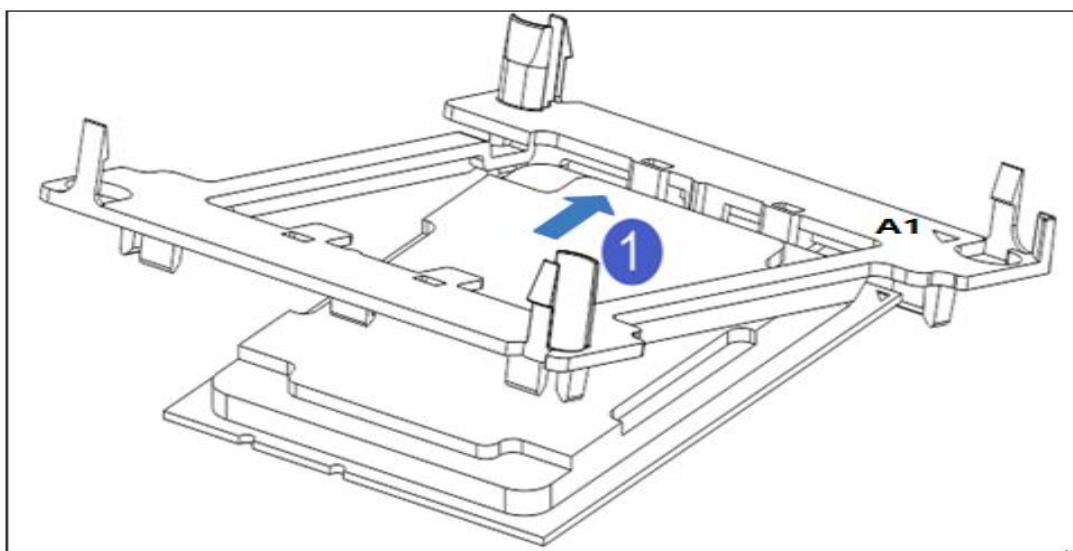

Figure 3.2
- ① Please purchase Intel® CPU through official channels .
- ② Please make sure that the processor specification you purchased is of a supported type for this motherboard.
- ③ If you buy a CPU in bulk, make sure your CPU is using a Gooxi® certified heat sink.
- ④ The position of the air duct will affect the installation of the CPU. Please remove the air duct before installing the CPU.
- ⑤ When only one CPU is installed on a single node, it needs to be installed at the position of CPU1, otherwise it cannot be powered on.
- ⑥ The protective cover on the motherboard CPU installation box is used to protect the pins on the socket, so it can be removed before installing the CPU.
- 1-1 Tilt the CPU angle as shown in Figure 3.2 below, align the A1 corner (triangular mark), and clamp it on one end of the clamping piece.